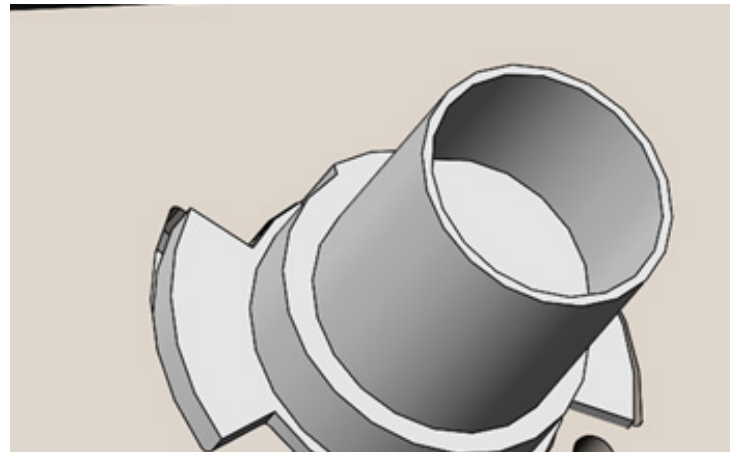

Figure 4
15. To reinstall the trailer plug receptacle, two mounting holes need to be drilled into the mounting flange. Use the cut-out in the bumper to mark and drill the required ¼" holes. Use the two (2) supplied #10-32 x 1" socket head screws, flat washers, and Nylock nuts to secure the receptacle in the bumper. (Figure 4) (61373-HW)